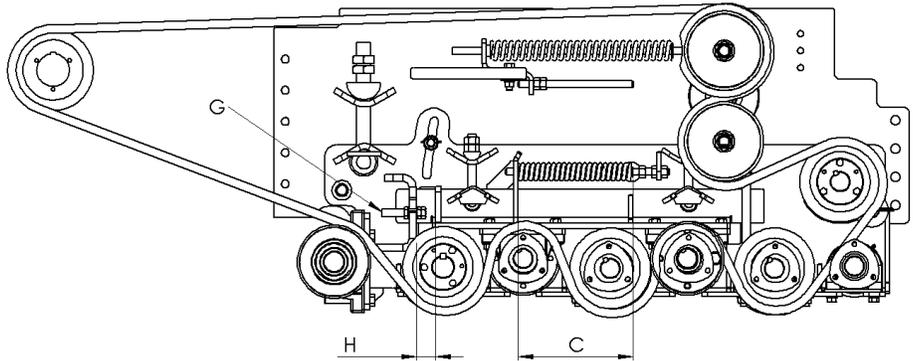

Figure 7-22: Grabroll Spacing Adjustment
3. Adjust bolt (G) shown in figure 7-22, to change the gap between smooth grabrolls and the scrolled grabrolls.
4. Readjust rock trip spring compression (C) to 8.5 in. (21.7 cm).